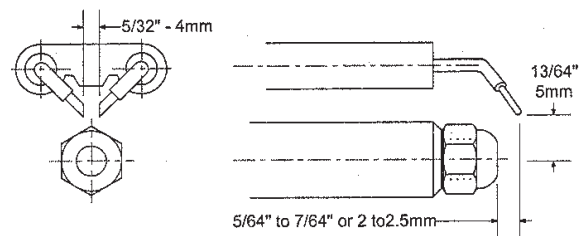

Figure 7: Electrode Setting
- iv. Replace adapter, with nozzle installed, into drawer assembly and secure with screw (1).
- c. **Inspect and measure burner electrodes**. Refer to Figure 7 for the proper electrode settings.